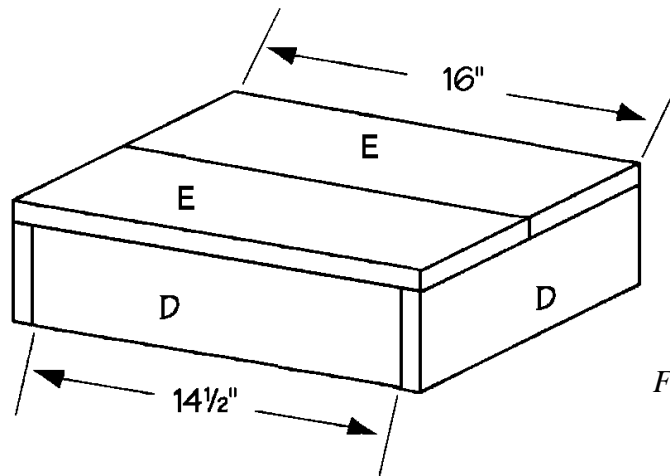

Figure 3
1. Cut four base sides (D) from 1 x 4 pine, each measuring 14-1/2 inches.
2. Place two bases (D) on a level surface, parallel to each other and 14-1/2 inches apart. Fit the remaining two base sides (D) between the first two base sides (D), as shown in *Figure 3*. Apply glue to the meeting surfaces, and nail through the overlapping base sides (D) into the ends of the inner base sides (D), using two 1-1/2"-long nails on each of the joints.
3. Cut two bases (E) from 1 x 8 pine, each measuring 16 inches.
4. Fit the two bases (E) over the base sides (D), as shown in *Figure 3*. Apply glue to the meeting surfaces, and nail through the edges of the two bases (E) into the base sides (D). Use four or five 1-1/2-inch-long nails on each side.